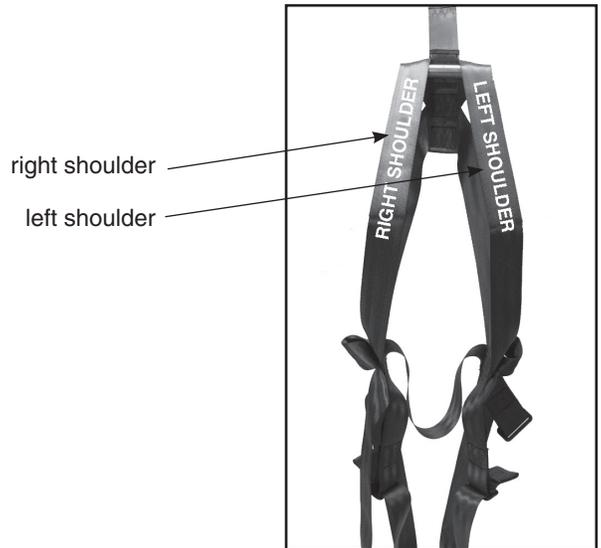

FIGURE 2
3. Now holding the harness, locate the (2) shoulder straps labeled “LEFT SHOULDER” and “RIGHT SHOULDER”, and spread them apart to make sure there are no twists or tangles in the harness. **SEE FIGURE 2.**